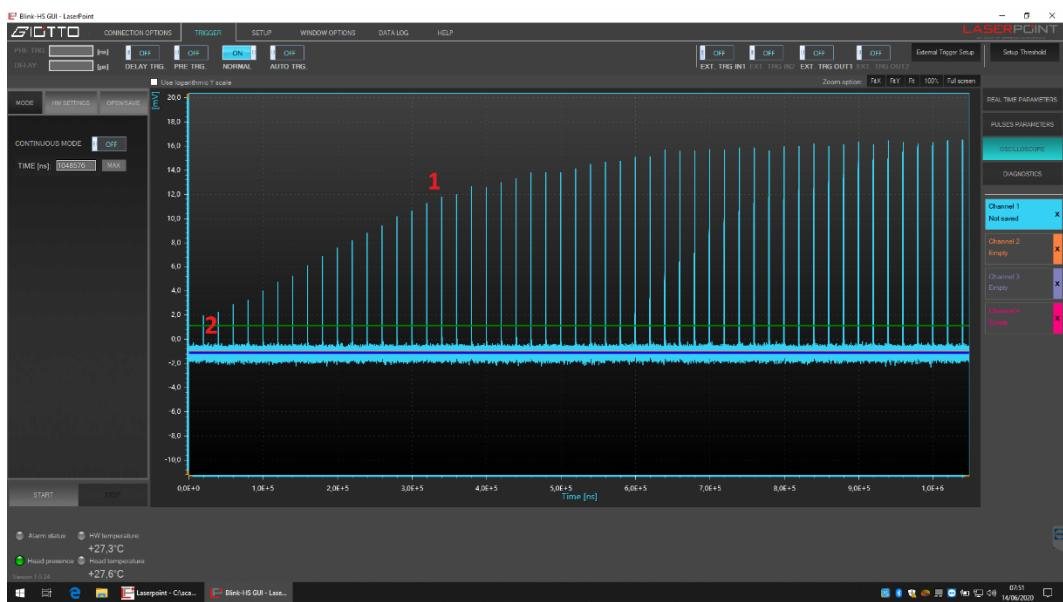

Figure 19
2. As soon as signals are greater then Trigger Start threshold (**2, fig.19**) the HSM meter displays the pulse train (**1, fig.19**); in this example the ramp up of a fiber laser is detected